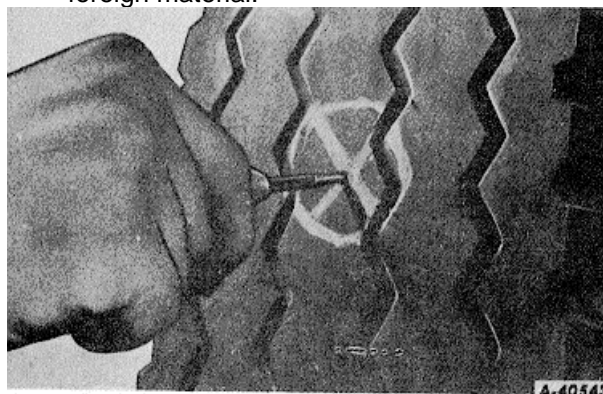

Fig. 14
1. Remove tire and wheel assembly and inflate the tire to the recommended pressure. Locate the leak and mark with a crayon. It may be necessary to immerse the tire in water or apply a coat of soapsuds to the tire to locate the leak. Dismount the tire. Probe the injury with an awl (Fig. 14) to remove the puncturing object and foreign material.